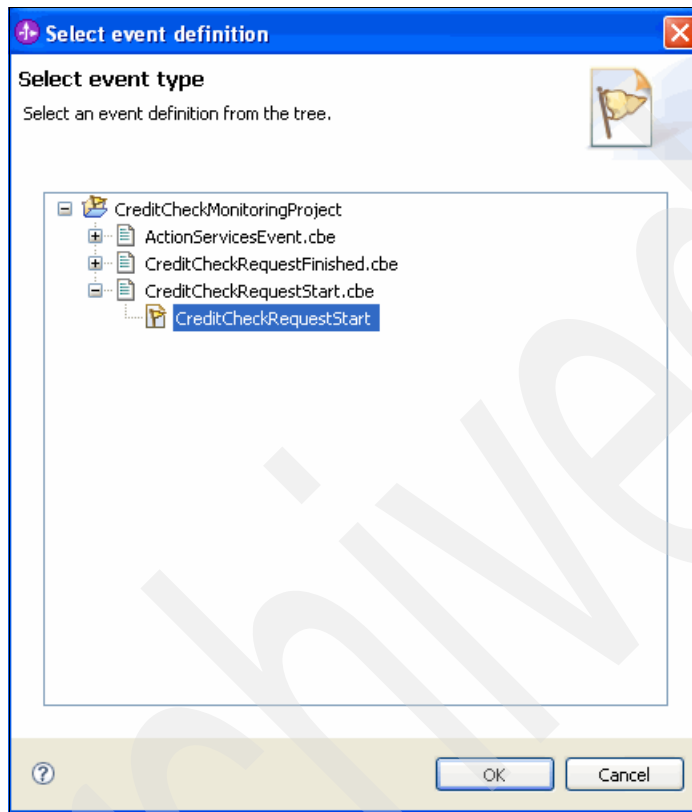

Figure 10-38 Select event definition window
4. In the Select event definition window (Figure 10-38), select the **CreditCheckRequestStart** event type and click **OK**.